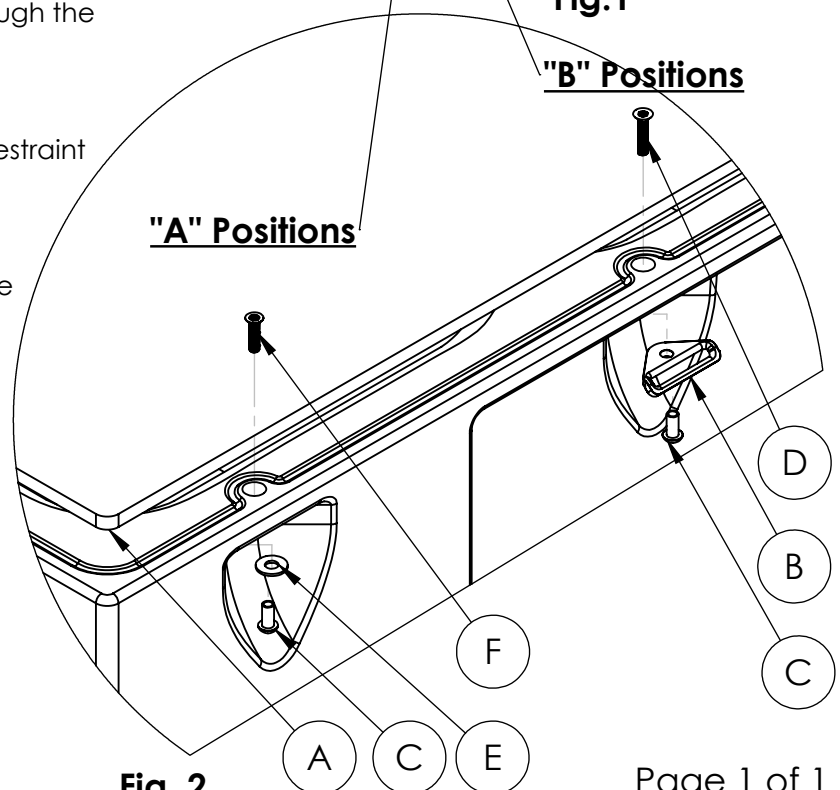

Fig. 2
5. Assemble the components in the sequence shown in (**Fig.2**).